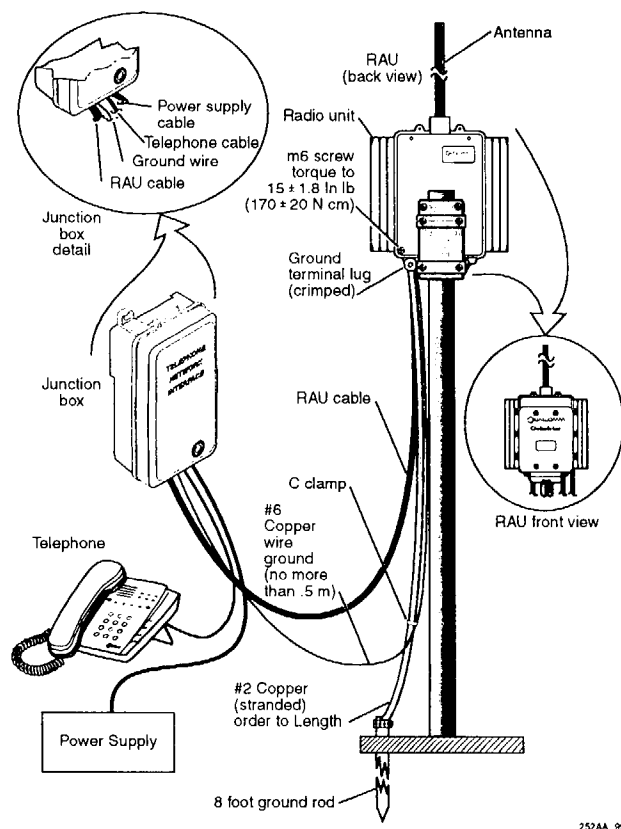

Figure 23. Grounding the RAU
If the RAU is mounted on a metal pole whose lower end is buried in the ground, run the grounding wire directly from the RAU and bolt it to the pole. (See Figure 23 for details).
- If the RAU is mounted on a building that is not lightning protected or on a nonconductive pole, run the grounding wire from the RAU down the pole next to the RAU cable and route it past the junction box. Then bolt it to a grounding rod, that is, a rod specifically designed to ground in this situation. Refer to Figure 23 and Step 10. Standard practices for grounding on page 26. Connect the 0.5 meter 6 AWG ground conductor from the junction box to the RAU ground cable using a compression tap.